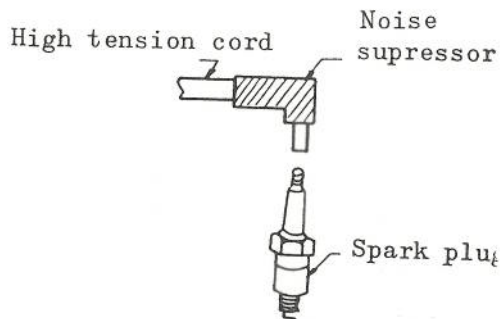

Fig. 10-163
- 1) Check to see if engine hood hinges are provided with jointing compound. Such noises may be practically killed by inserting noise supressor or condenser into circuits as illustrated in Figs. 10-163 and 10-164.
- (2) Noise arises from the alternator